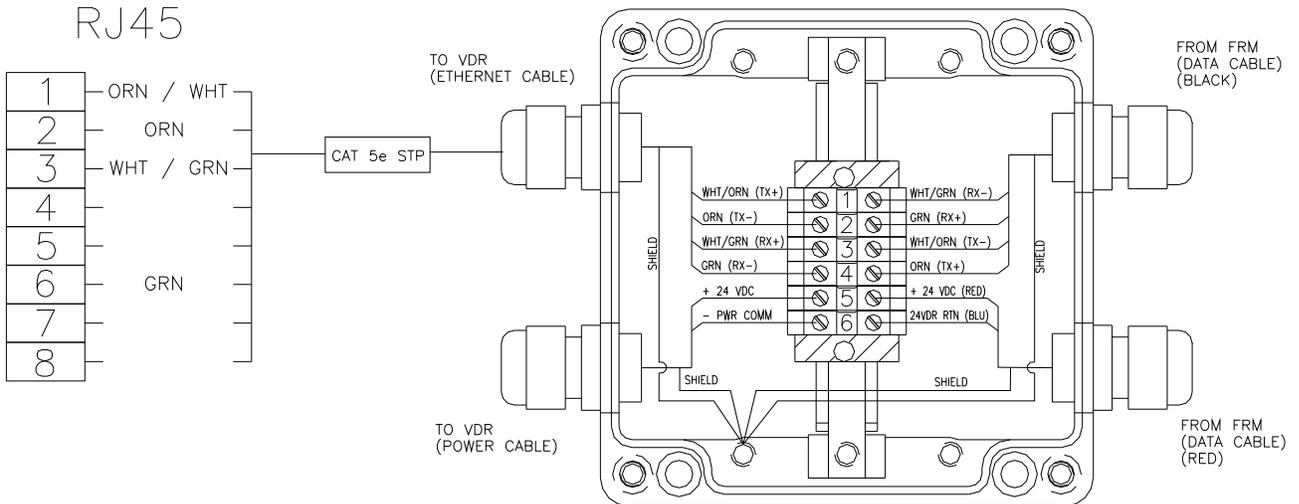
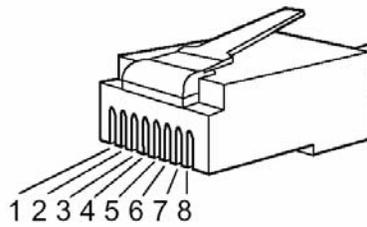

Figure 5-17 - FRM Connections to L3 HVR-02 Fixed FRM Capsule (Revised Unit)
Figure 5-18 - RJ45 Connector
The wiring of the connections between the RJ45 connector (illustrated in *Figure 5-18 - RJ45 Connector*) and the FRM is illustrated in *Figure 5-17 - FRM Connections to L3 HVR-02 Fixed FRM Capsule (Revised Unit)*. However, the connections shown pertain **only** to the L3 HVR-02 Fixed FRM Capsule. Refer to the FRM manufacturer's installation manual to confirm all FRM installation information.
**Note!** The wiring shown in Figure 5-17 - FRM Connections to L3 HVR-02 Fixed FRM Capsule (Revised Unit) is a crossover connection. Care must be taken to ensure there is only 1) crossover. 2 crossover connections have the same affect as a straight-through connection.